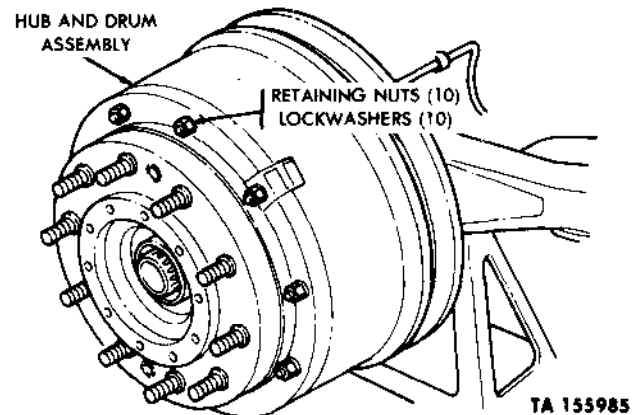

Figure 2-201. Removing hub and drum assembly.
*c. Drums.* All drums (fig. 2-201) are secured to the hubs by retaining nuts and lockwashers installed on the mounting studs at the hub flanges. All drums are interchangeable between front and rear axles and opposite sides of the vehicle.
(6) Remove the hub and drum assembly (fig. 2-201) from the axle spindle (10, fig. 2-200).
(7) Remove the 10 nuts (fig. 2-201) and lockwashers securing the brake drum to the hub, pry the drum from the hub.
(2) Install the hub and drum assembly (fig. 2-201) on the axle spindle so that the inner tapered roller bearing cone and inner-bearing oil seal enter the hub inner bore.